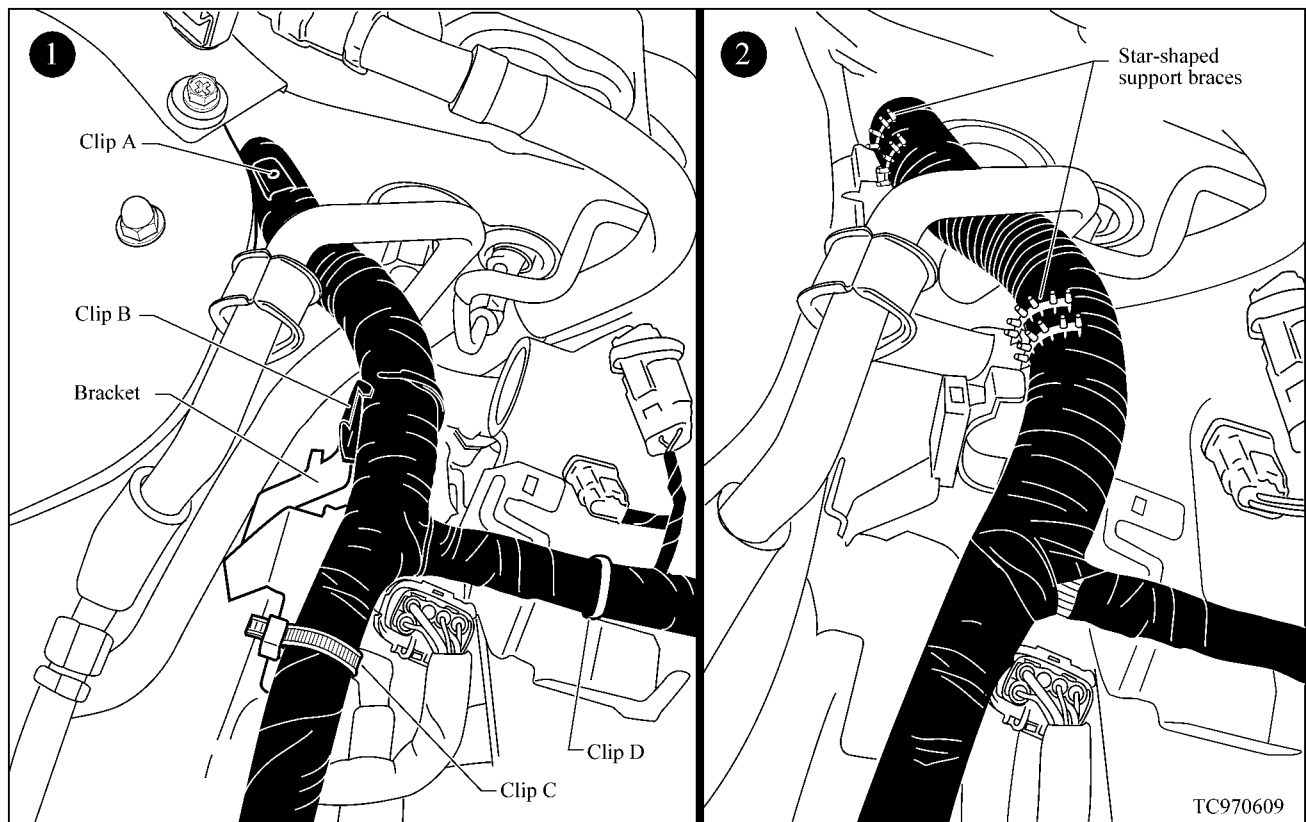

Figure 3
17. Install the bracket for clip A back on to the strut tower (see Figure 3, page 9).
21. Install countermeasure clips C and D to the engine, then secure them to the harness (see Figure 3, page 9).